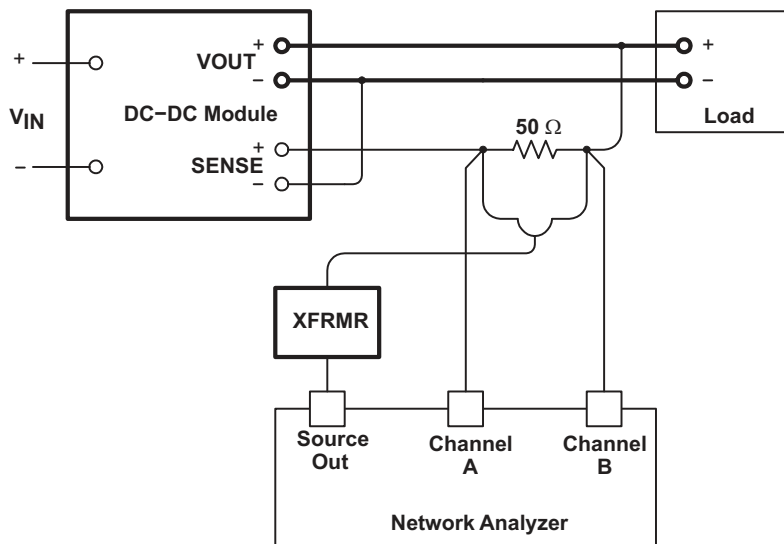
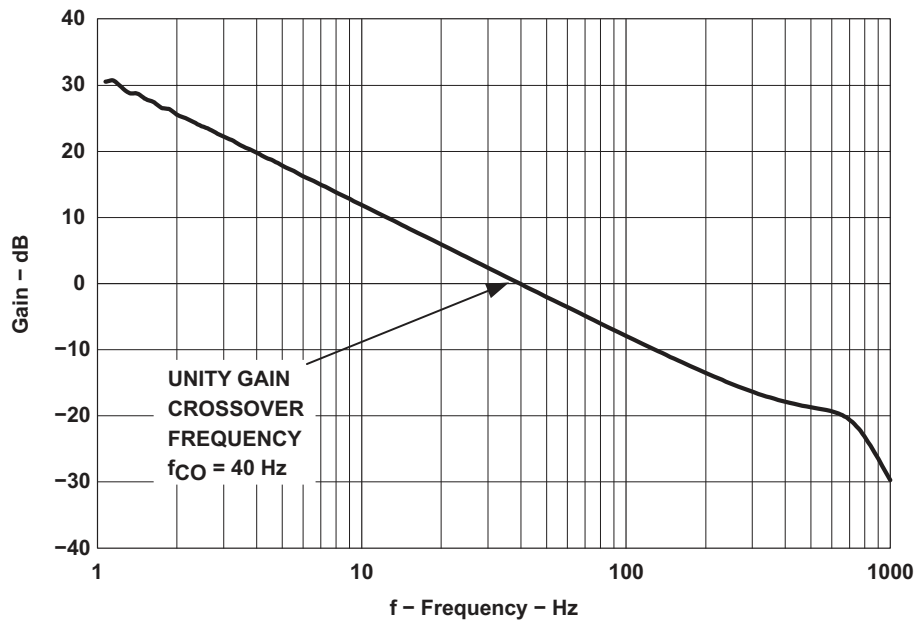

Figure 7. Unity-Gain Crossover Frequency Measurement Connection Diagram
Figure 8. Power Module Bode Plot
Using the configuration in Figure 7, measure the unity-gain crossover frequency of the power modules to be paralleled. A typical resultant bode plot is shown in Figure 8.
The total load-share loop unity-gain crossover frequency, f_{CO} , must be set at least one decade below the measured crossover frequency of the paralleled modules previously measured, $f_{CO(module)}$. (See Figure 8) Compensation of the transconductance error amplifier is accomplished by placing the compensation resistor, R_{EAO} , and capacitor, C_{EAO} , between EAO and GND. The values of these components is determined using Equation 8 and Equation 13.
- $G_{MODULE}(f_{co})$ is the measured value of the gain from Figure 8, at the desired crossover frequency. (12)